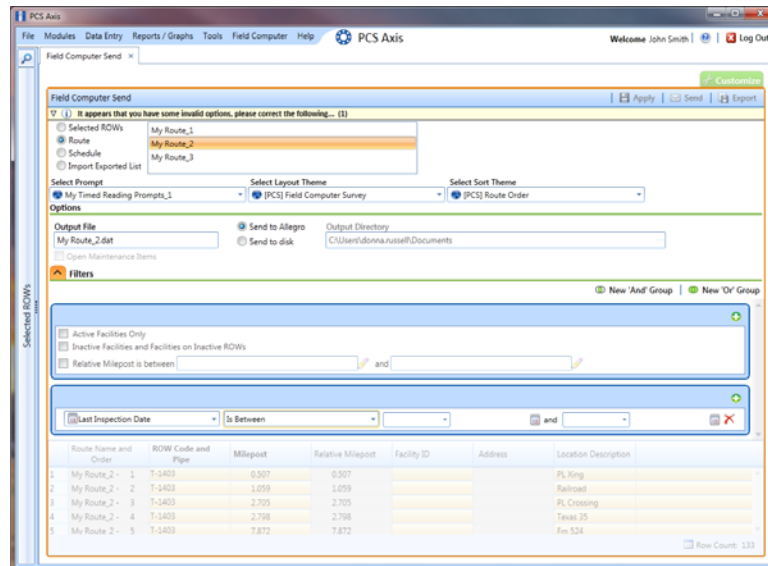

Figure 7-25. New 'And' Filter Group
- 24 To filter records in the grid and in the route sent to the Allegro based on a subset of records that meet *all* filter conditions, complete the following steps to add a new AND filter group (Figure 7-25, page 309):
NOTE: Clicking the  toggle button in the  information bar displays important information related to required settings (Figure 7-25).